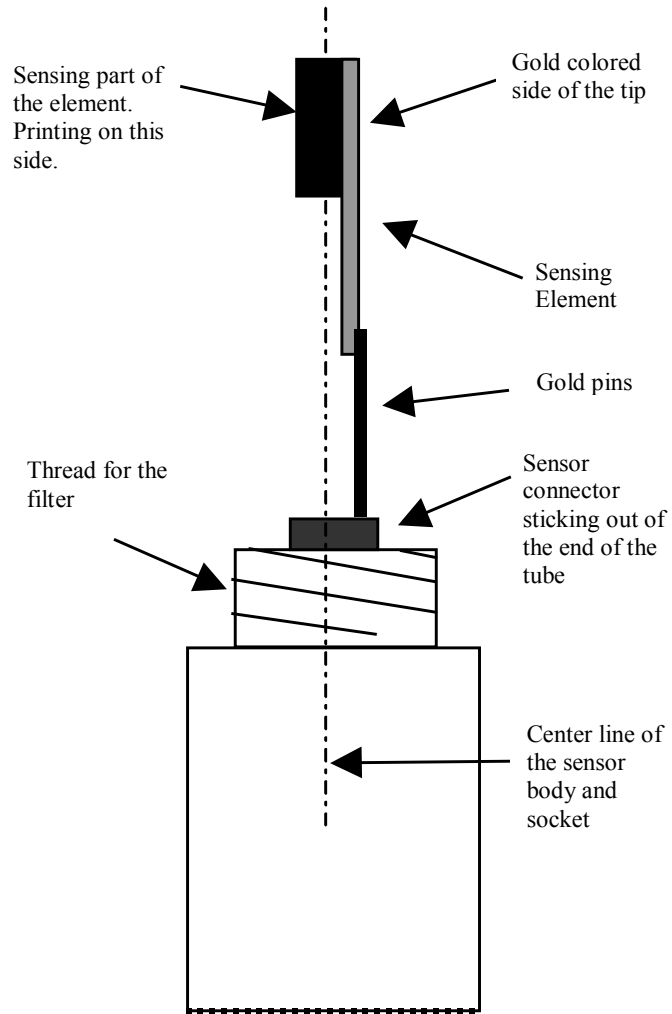
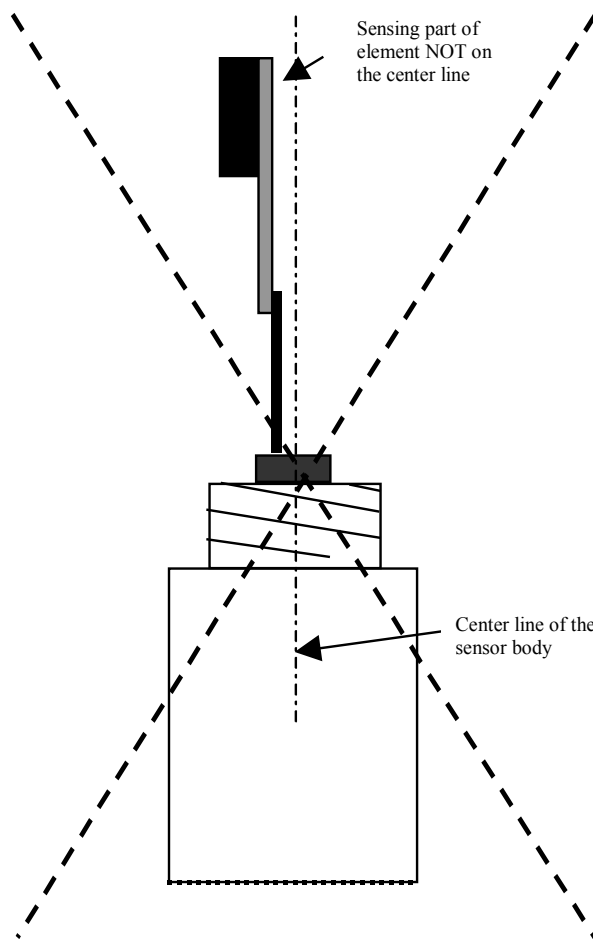

FIGURE 9-1. Correct fit of sensor element (side view)
FIGURE 9-2. Incorrect fit of sensor element (side view)
4. Identify the sensor element. FIGURE 9-1 below shows a side view of the end of the probe and sensor element. Before removing the element, carefully study the probe, note its orientation, and read the following description:
- FIGURE 9-1 shows the correct orientation, while FIGURE 9-2 shows the incorrect orientation.
10. Before replacing the filter element and turning on power to the sensor, double-check that the sensor is inserted in the correct orientation. Refer to FIGURE 9-1.